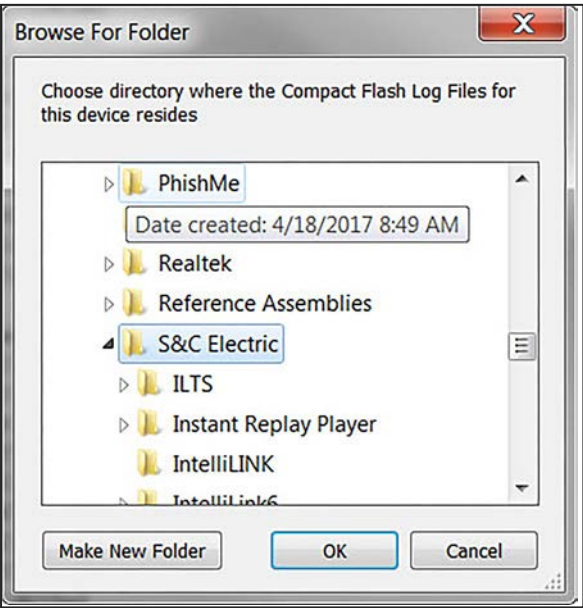

Figure 118. The directory search for .EVT files dialog box.
STEP 7. Double-click on the directory icon for each device and then search that directory for the necessary .EVT files. See Figure 118. Repeat this process until all .EVT files have been selected for all devices that were part of the event.